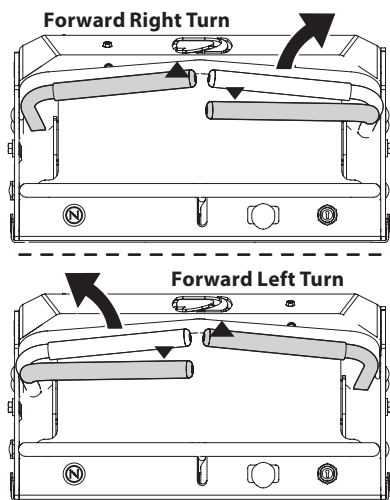

Figure 12
1. To turn to the right, move the right drive control lever rearward of the left drive control lever (Figure 12).
2. To turn to the left, move the left drive control lever rearward of the right drive control lever (Figure 12).